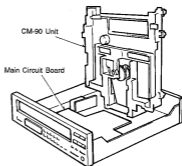

Fig.10
10. Place the CM-90 Unit upright and fix it with gummed tape. (Fig. 10) Also, remove the connector as necessary.